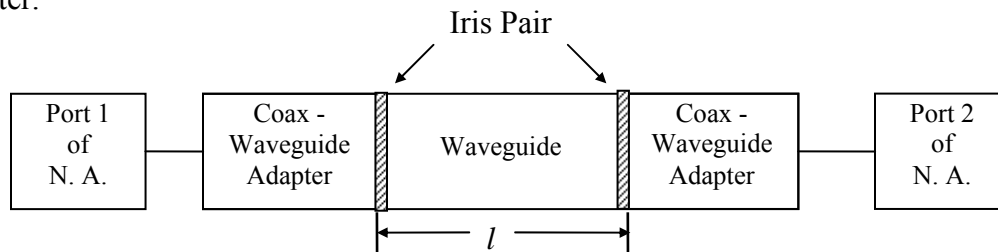

Fig.1 Block Diagram of Waveguide Filter
- (ii) Measure the length ' l ' of the waveguide that you will be using to construct the filter (fig 1).